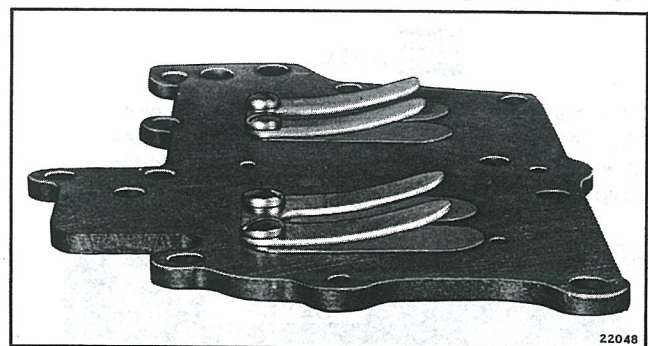

Figure 3-17. Leaf Valves and Plate Assembly
b. The leaf is so designed that it maintains constant contact with the leaf plate until a predetermined pressure is exerted against it. Leaf travel away from the plate is limited by the leaf stop. When pressure is removed, the inherent spring action of the leaf segments returns and holds them against the plate. Attach the leaf segments and leaf stops to the leaf plates, then examine each leaf carefully. Each leaf must lie flat against the plate with no edges turned up or away from the plate. Make certain leaves are centered. See Figure 3-17.